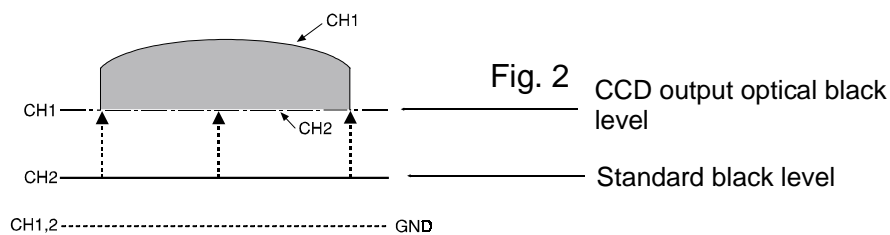

Fig. 2
5. Check the standard black level at TP604. It should be the same as the optical black level of the CCD output. If it is not, adjust the standard black level by turning VR602 (see Fig. 2).